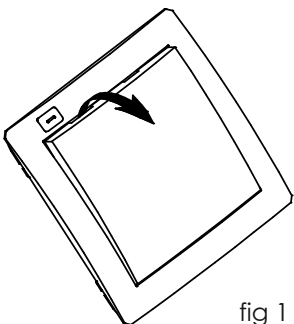

fig 1
1. Disconnect the key(s) (fig. 1).